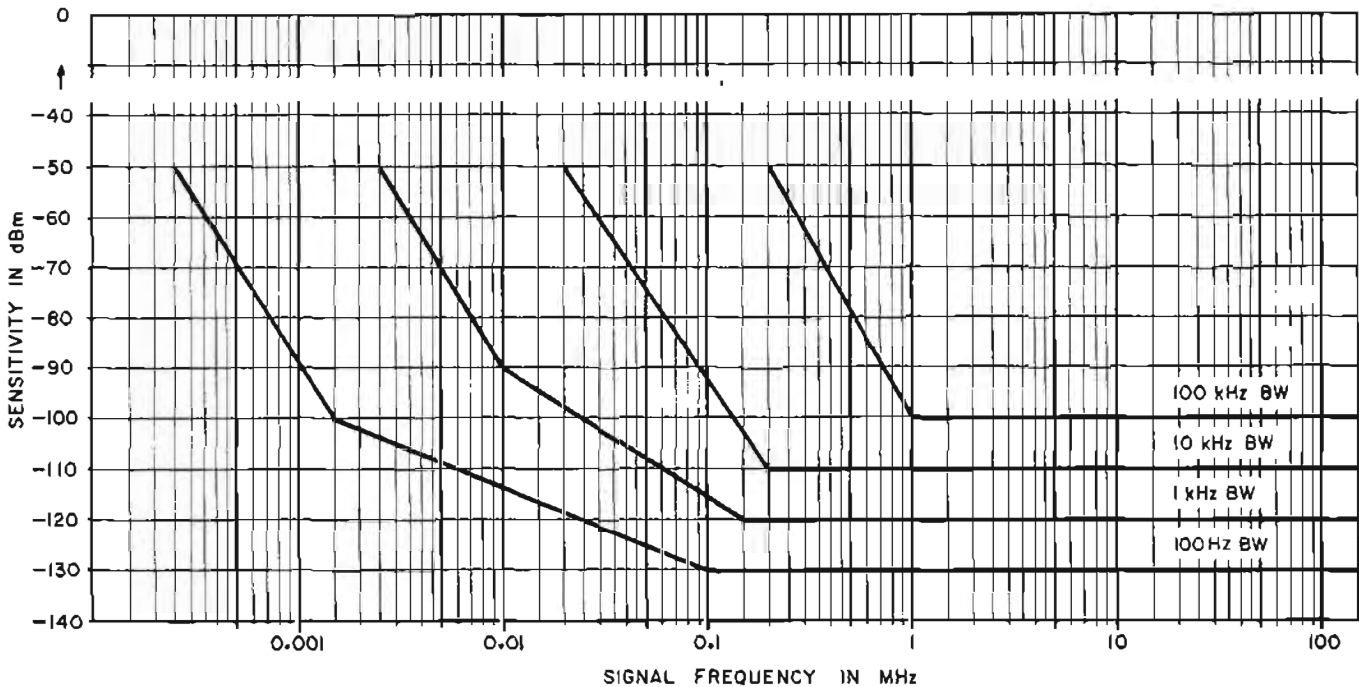

Figure 7. Typical Sensitivity vs. Input Frequency.
*Typical sensitivity versus input frequency curves for frequencies from 1 kHz to 110 MHz are shown in Fig. 7.